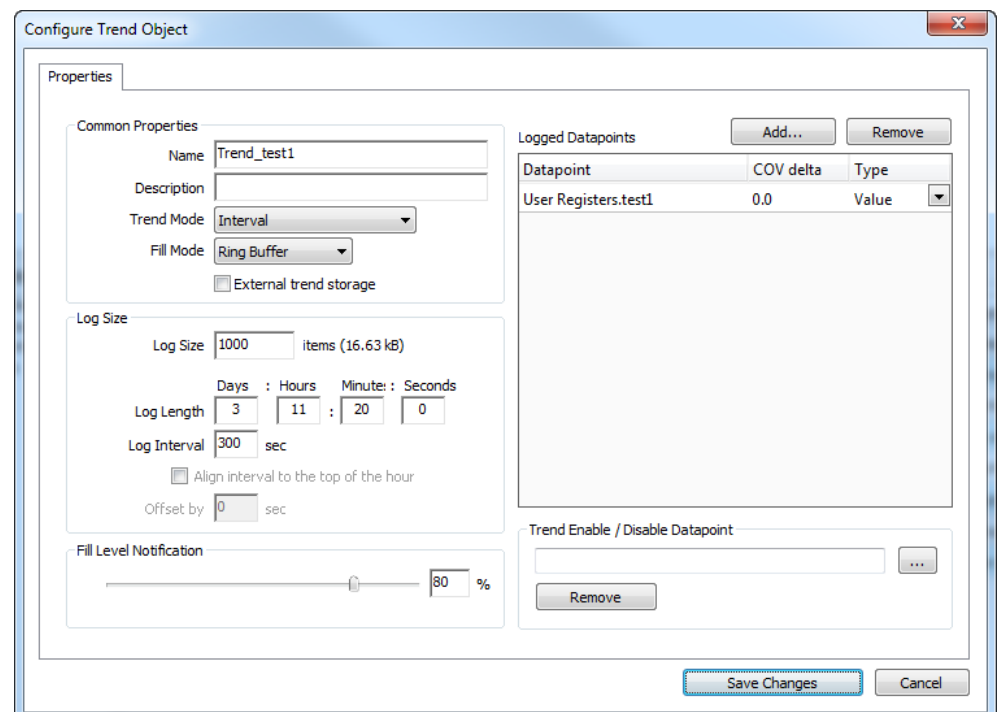

Figure 70: Basic Trend Object Configuration.
3. In the **Create New Trend Object** dialog (shown in Figure 70) enter a name and optionally a description for the trend log object.